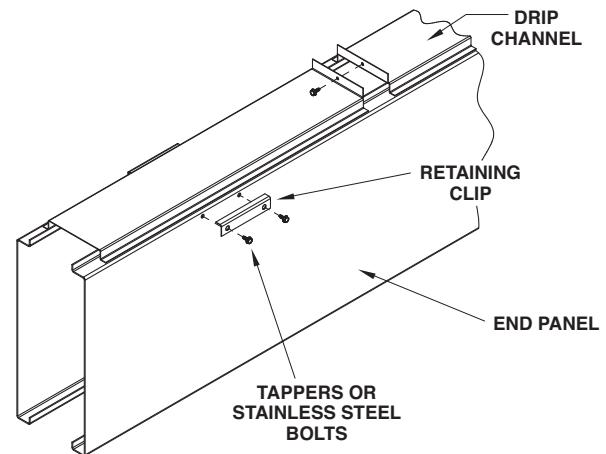

Figure 7 - Drip Channel Installation
8. Place the drip channel over the adjoining pan section flanges. Secure by installing 5/16" self-tapping screws through the retaining clips into the end panels. For stainless steel construction, secure by installing 1/4" stainless steel bolts through the retaining clips into brass rivnuts secured in the end panel. (See Figure 7.)